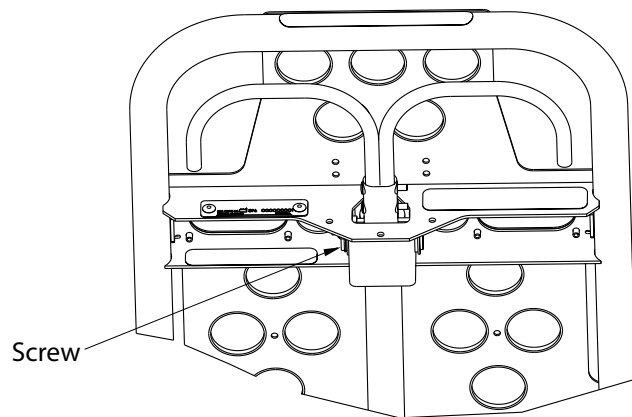

Figure 59
2. Using a 3/32" Allen Wrench, loosen the set screw that holds the gas shaft to the yoke (see Figure 59).